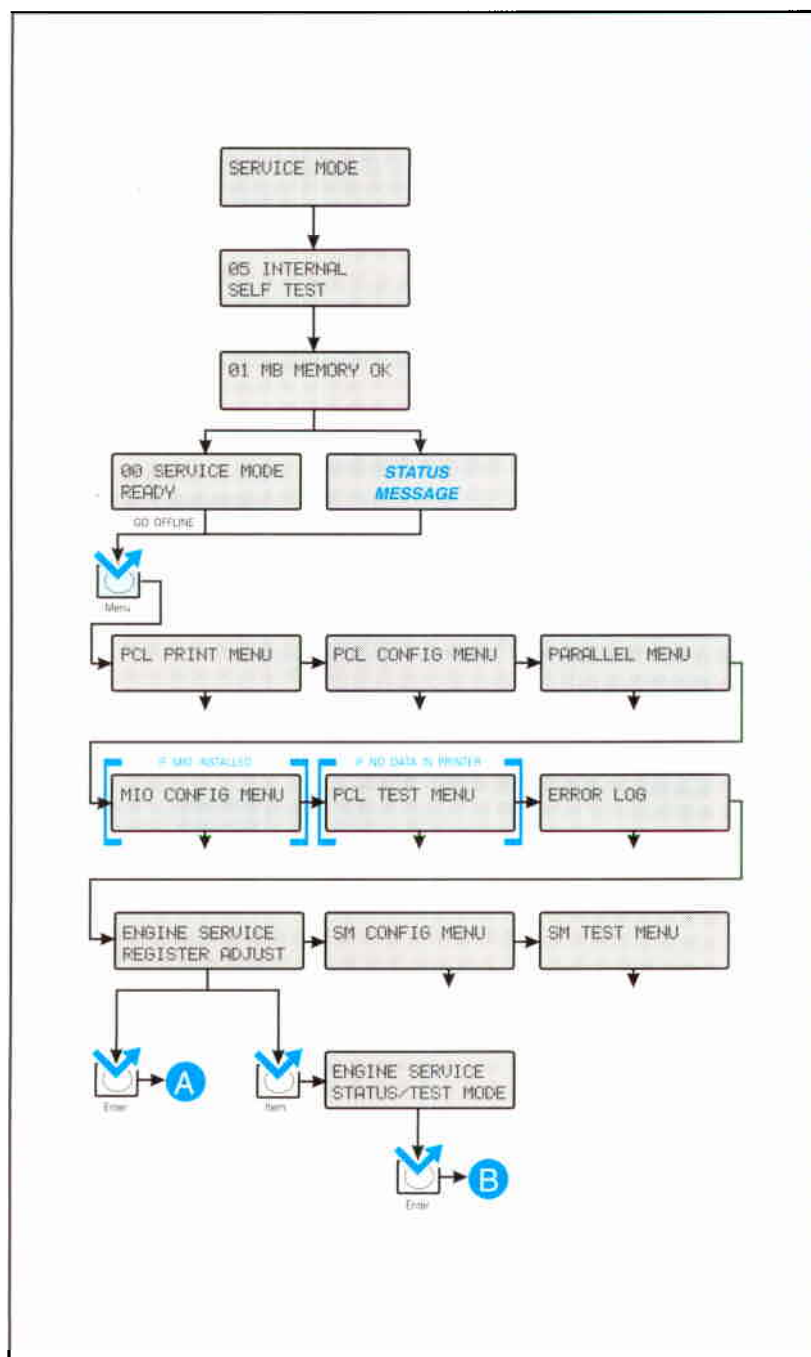

Figure 7-45 Service Mode Flow Chart
- **Register Adjust** allows the service engineer to change the factory-set NVRAM values which control the placement of the image on the page. This compensates for small differences in paper registration between printers. Detailed developer counter information is also available in this mode. Use developer counter information to troubleshoot toner concentration problems. Enter this mode as shown in Figures 7-45 and 7-46, later in this section. Register Adjust addresses and values are listed in Table 7-10.